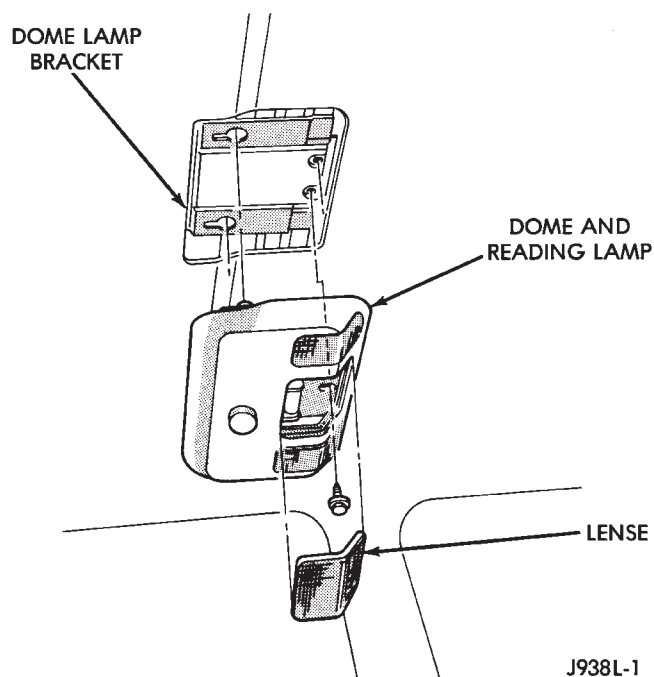

Fig. 26 Dome/Reading Lamp
(5) Remove dome/reading lamp or overhead console from center of roof panel (Fig. 26).
(6) With aid of an assistant, remove headliner through liftgate opening.
(2) Install dome/reading lamp (Fig. 26).